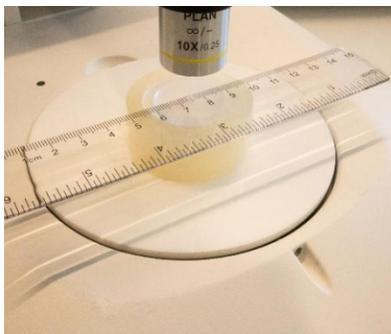

Figure 6
6. From the review tab, click and drag horizontally from the left edge of one dark dash to the left edge of the adjacent dark dash (Figure 6)